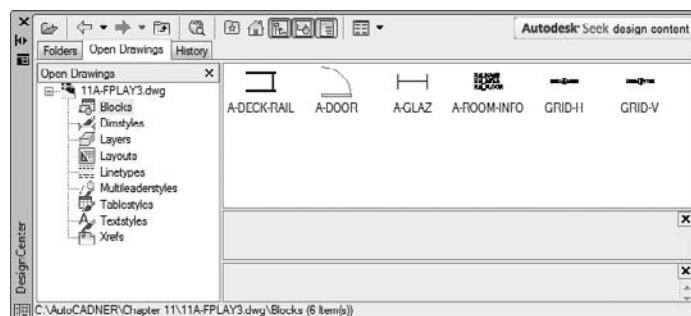

FIGURE 11.27 The DesignCenter with the Large Icons view enabled
-  8. Click the arrow on the Views button in the DesignCenter toolbar, and choose Large Icons as the view option to see a display like Figure 11.27.